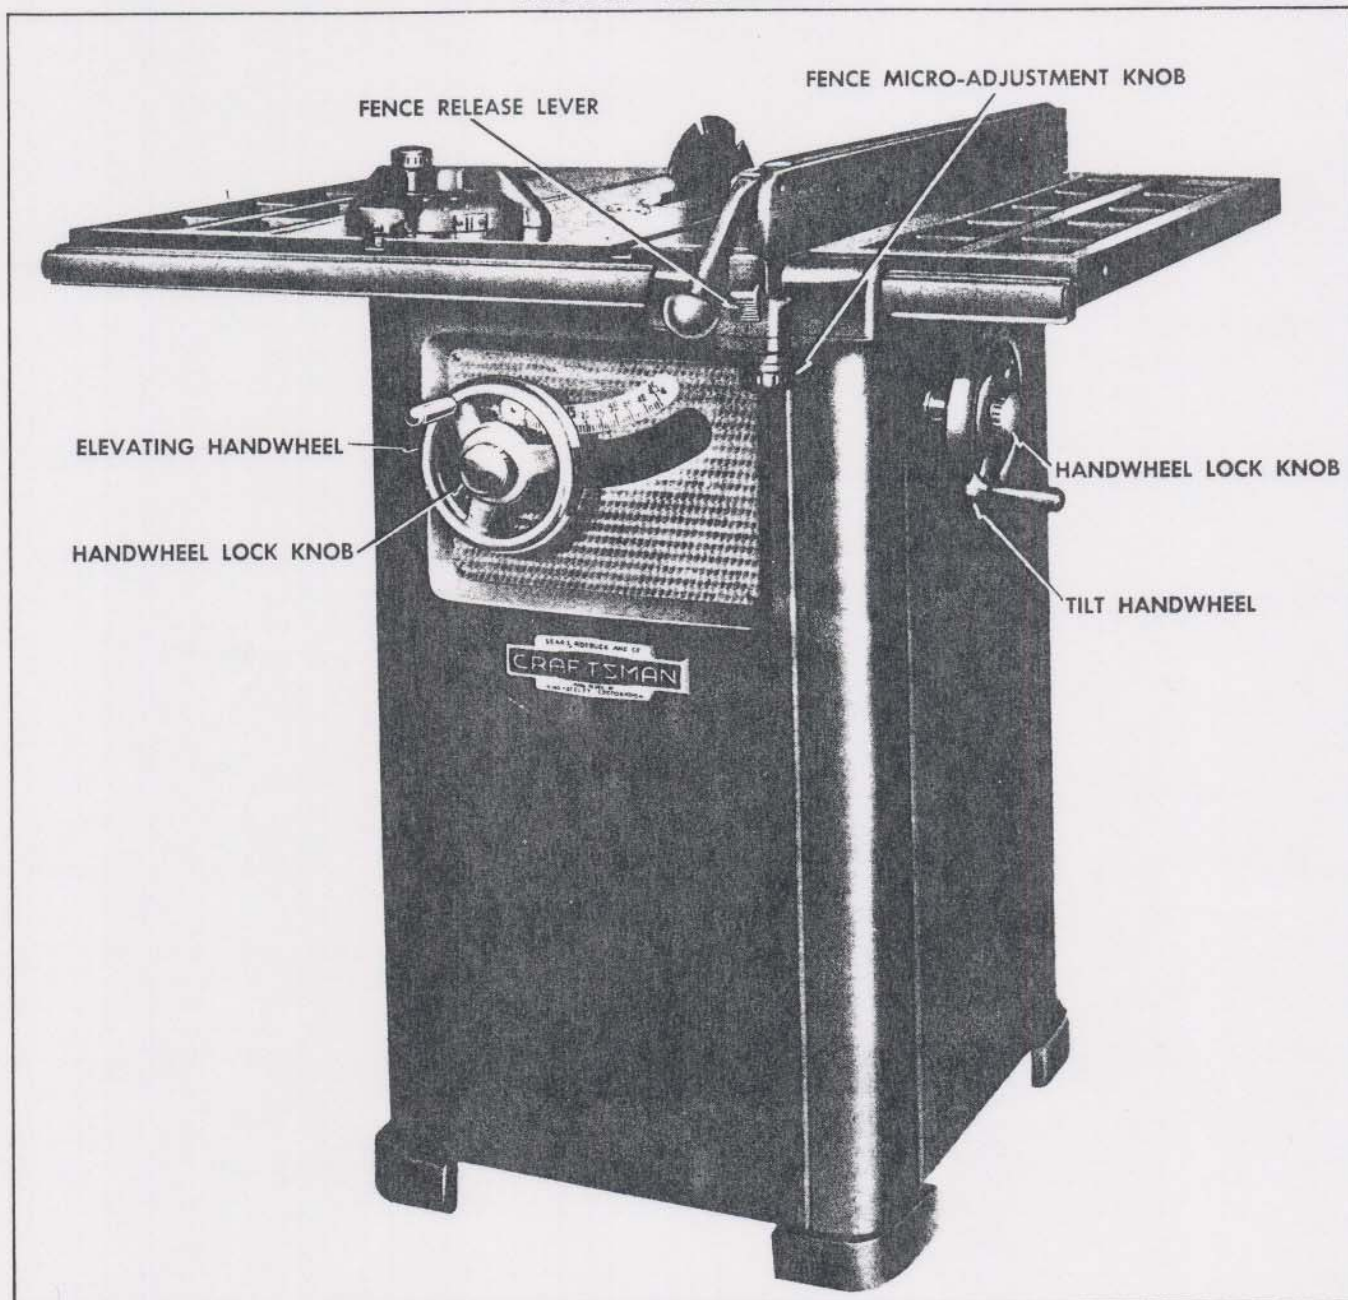

FIGURE 1
1. With the fingers of one hand under the front end of the fence, fully depress the Fence Release Lever, Fig. 1, with the heel of the hand.
The **Micro-Adjustment Knob**, Fig. 1, is used for making fine adjustments.